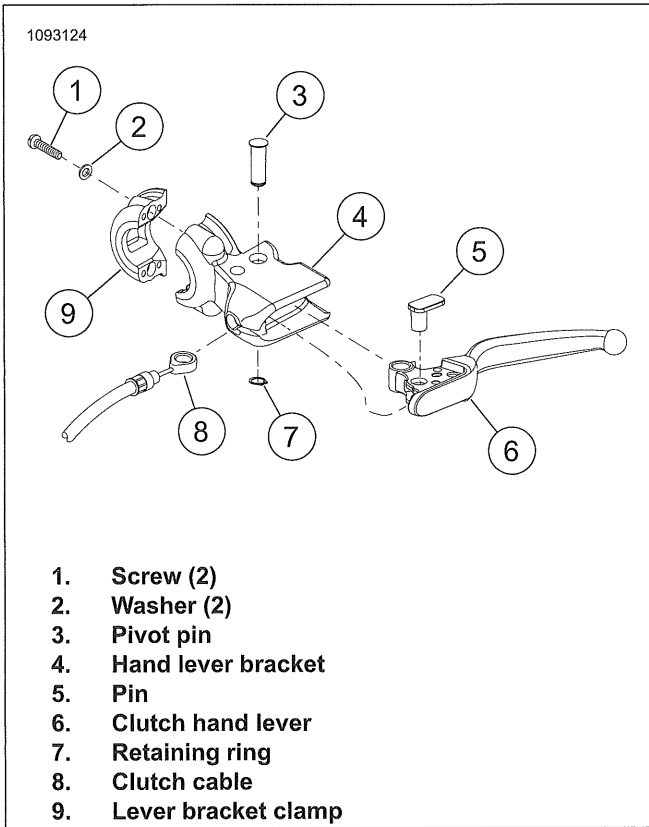

Figure 3-99. Clutch Assembly
- 1. See Figure 3-99. Remove clutch cable.
- a. Remove retaining ring (7).
- b. Remove pivot pin (3).
- c. Remove clutch hand lever (6).
- d. Remove pin (5).
- e. Remove clutch cable (8).
- 1. See Figure 3-99. Remove clutch hand control assembly.
- a. Remove screws (1) and washers (2).
- b. Remove lever bracket clamp (9).
- c. Remove hand lever bracket (4).
- 1. See Figure 3-99. Install clutch cable.
- a. Install clutch cable (8).
- b. Install pin (5).
- c. Install clutch hand lever (6).
- d. Install pivot pin (3)
- e. Install retaining ring (7).
- 4. See Figure 3-99. Ensure clutch lever (6) is in full open position and that ferrule is correctly seated in housing.
1. See Figure 3-99. Install clutch hand control assembly.
- a. Install hand lever bracket (4).
- b. Install lever bracket clamp (9).
- c. Install washers (2) and screws (1). Tighten.